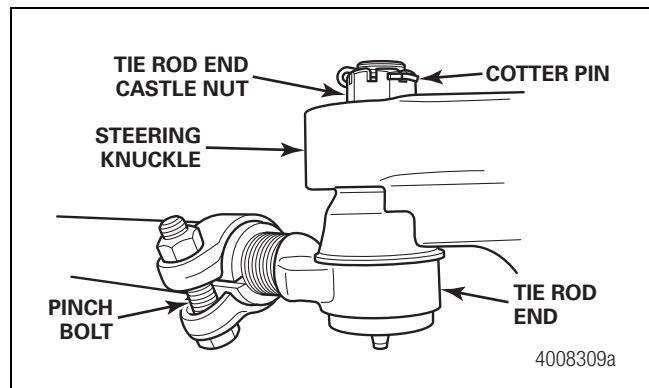

Figure 3.1
1. Remove and discard the cotter pins from the tie rod end castle nuts. Figure 3.1.